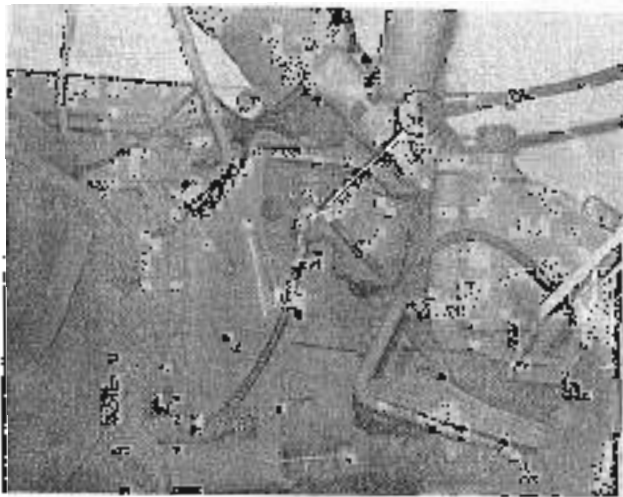

FIG. 5
(6) Power steering input and return hoses at the manifold block. (1, Fig. 5)
(7) Inc dash panel by removing (2) 10mm. bolts and nuts and loosening the hexagon mounting stud for the hydraulic lift lever. (1, Fig. 5)